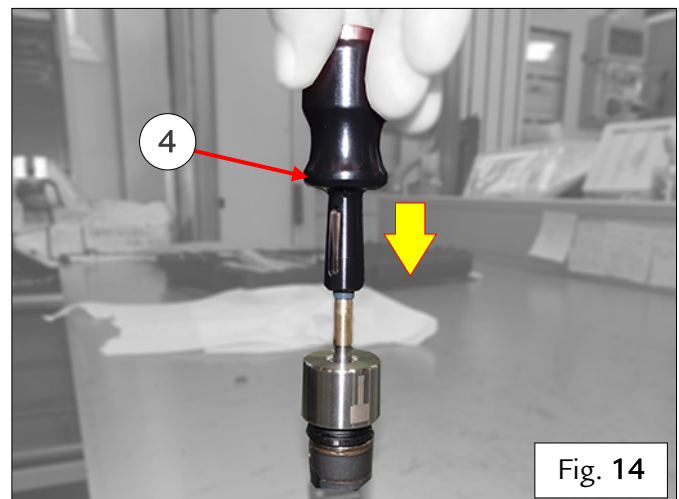

Fig. 14
- Use the pusher handle (4) to gently push the Teflon O-ring into its seat - Fig. 14.